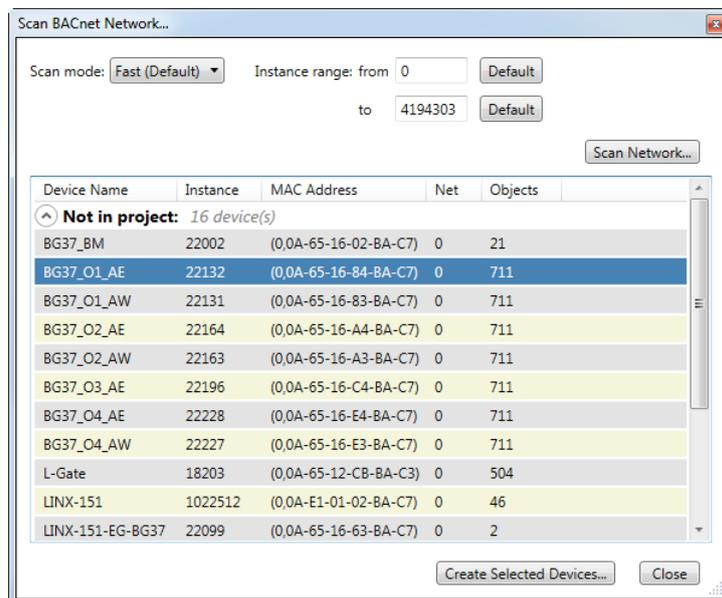

Figure 59: BACnet Network Scan
1. Select the folder **Network/Devices** or a subfolder and choose **Scan BACnet Network** from the context menu. This opens the BACnet network scan dialog as shown in Figure 59.